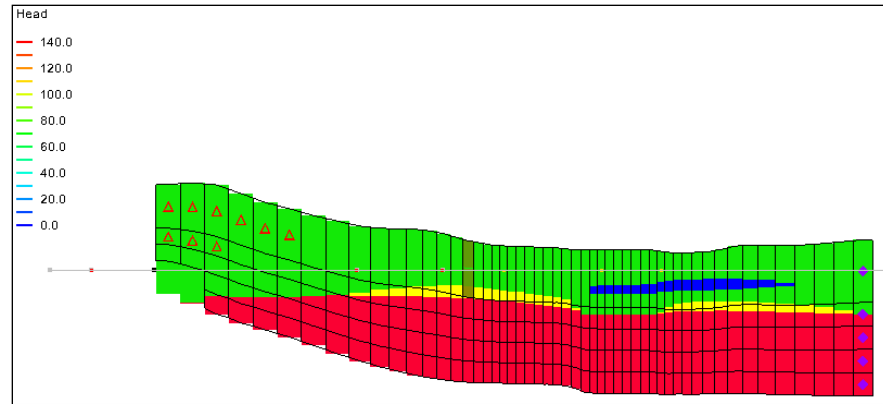

Figure 19 HUF data visible in front view
10. Use the arrow buttons  in the Mini-Grid Toolbar to view the grid along different columns (Figure 19).